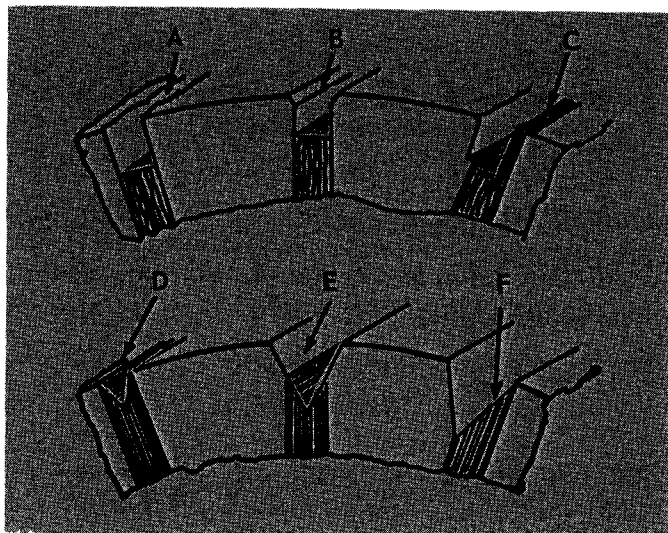

Figure 3-7.
When a square undercutting tool is used, it should be slightly wider than the mica and well centered so that the mica fin as shown at (C), Figure 3-7, is not left. Remove edges as shown at (A) by beveling as shown at (B).